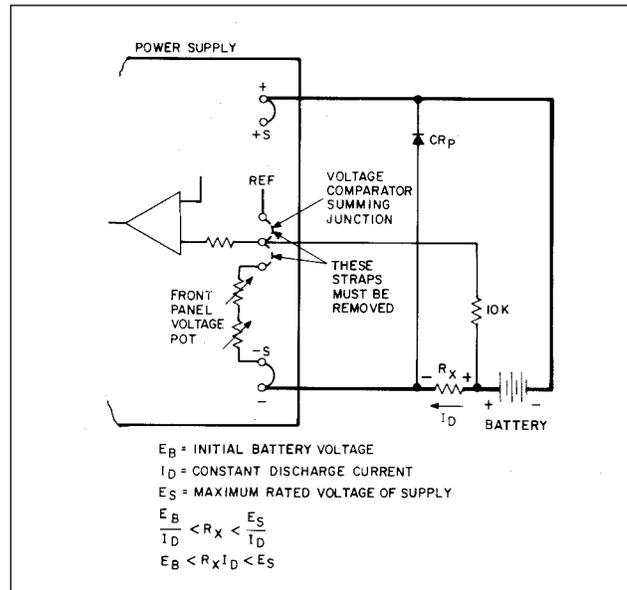

Figure 3. Constant Current Discharge
Agilent constant voltage/constant current DC power supplies are also useful when batteries must be discharged at a constant current. Connecting the supply as shown in Figure 3 and following the "battery discharging" instructions makes unattended constant-current discharge possible. Using this procedure, the power supply output will automatically shut-off when the battery voltage reaches zero; thus, preventing reverse charging of the battery.
not required, the 10 kilohm resistor may be omitted, and the jumper straps connecting the voltage comparator summing junction to the reference supply and front panel voltage potentiometers should be replaced. As shown in Figure 3,  $R_x$  must be selected such that its IR drop is less than the maximum rated output voltage of the supply, but greater than the initial battery voltage.
**Battery Discharging Procedure.** The procedure for the connection of the components in Figure 3 is as follows: